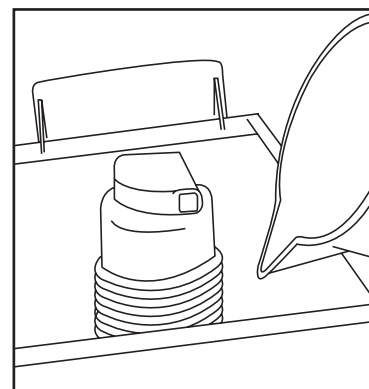

Fig 3
10. Remove the lid and fill the ice bath up to the fill markers. Once full ensure the lid is replaced (see Fig 3).